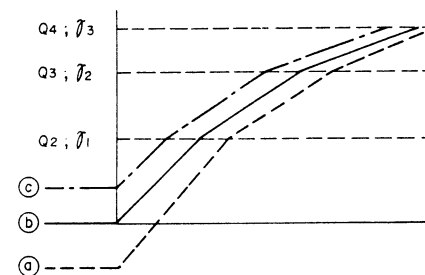

Fig. 26
In addition, if the DC level is varied by VR7 as indicated by ②, ⑤ and ③ in Fig. 26, the  $\gamma$  point will be shifted as illustrated.